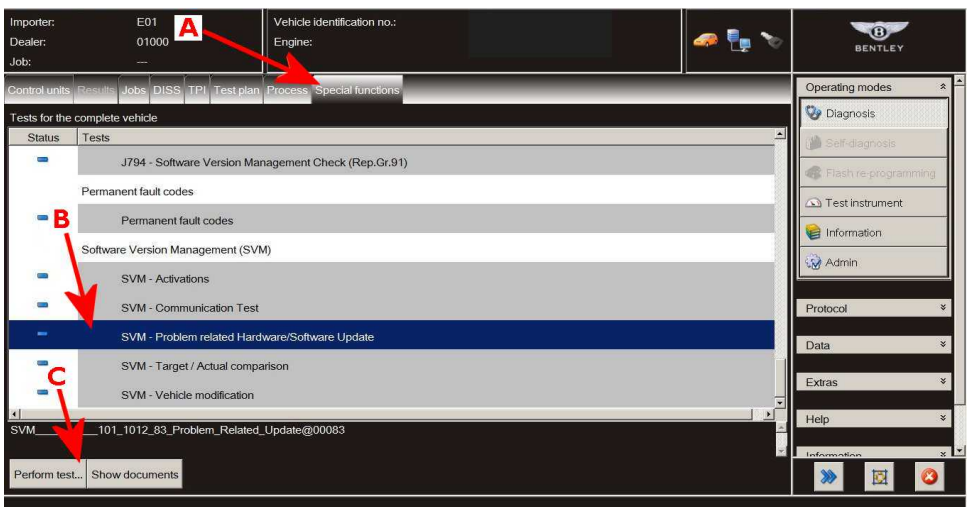

Figure 4
- 7. - Once the control module sweep within Guided Fault Finding is complete, Select – Special functions as shown in Figure 4 (point A)